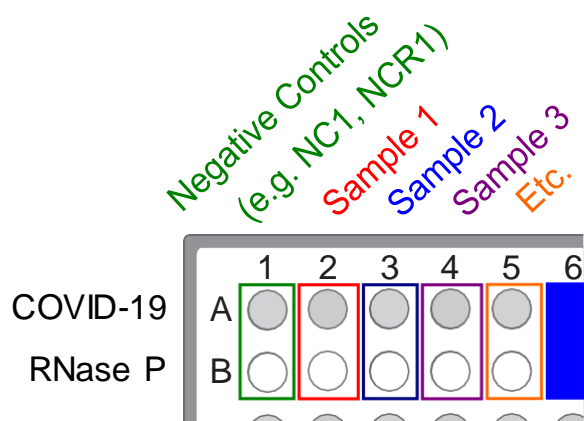

Figure 6 Paired sample and Negative Control wells for each assay
- Unseal the extraction plate, then add Negative Control from the single well of the extraction plate to wells A1 and B1 of the reaction plate, as shown in Figure 6 on page 61.